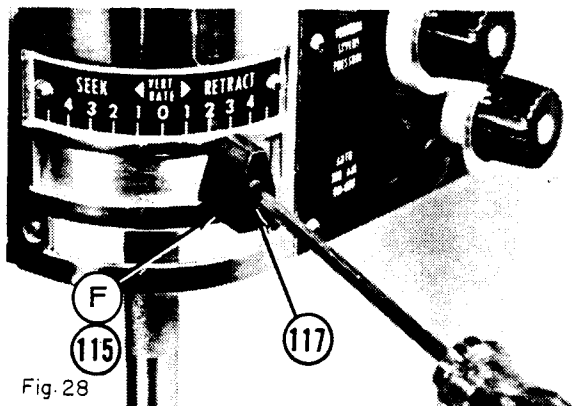
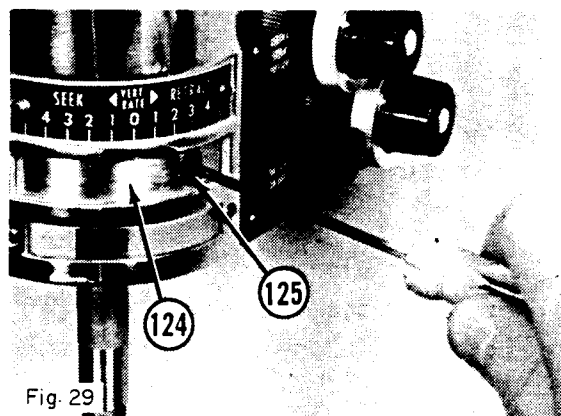
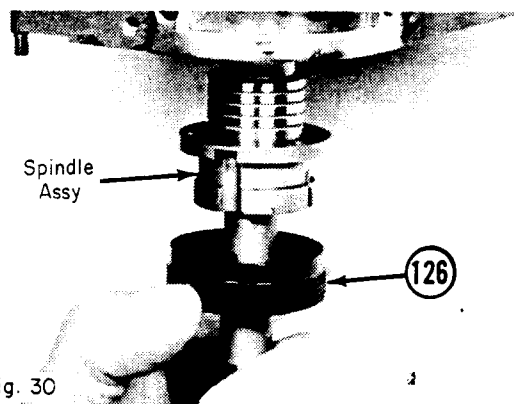

Fig. 28
Fig. 29
Fig. 30
After the nose assembly is off (Fig. 28), remove the Allen screw (117) that holds the Vertical Rate Control Lever (F). After the lever is off, the ring closure (124) may be shifted in a rotary direction to make access possible to the setscrews (125). These setscrews are approximately at right angles to each other. By moving the ring closure to the right and to the left, these two setscrews may be loosened (Fig. 29). After the setscrews are loose, the spindle assembly, together with the vertical rate control sleeve (126), may be unscrewed counterclockwise and dropped out of the Tracer Valve (Fig. 30).